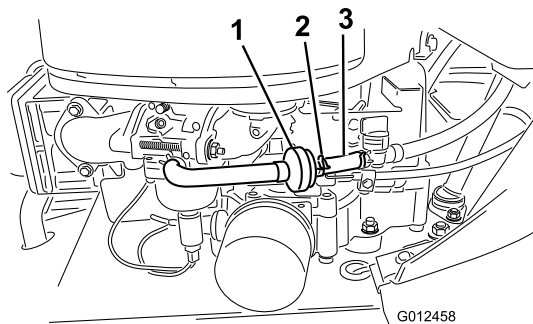

Figure 30
9. Remove the drain plug to allow the oil to drain (Figure 30).
7. Loosen the hose clamp at the fuel filter and slide it up the fuel line away from the fuel filter (Figure 30).
11. Slide the hose clamp close to the fuel filter to secure the fuel line (Figure 30).
The best time to replace the fuel filter (Figure 30) is when the fuel tank is empty. Never install a dirty fuel filter after it has been removed from the fuel line.
8. Pull the fuel line off the fuel filter (Figure 30).